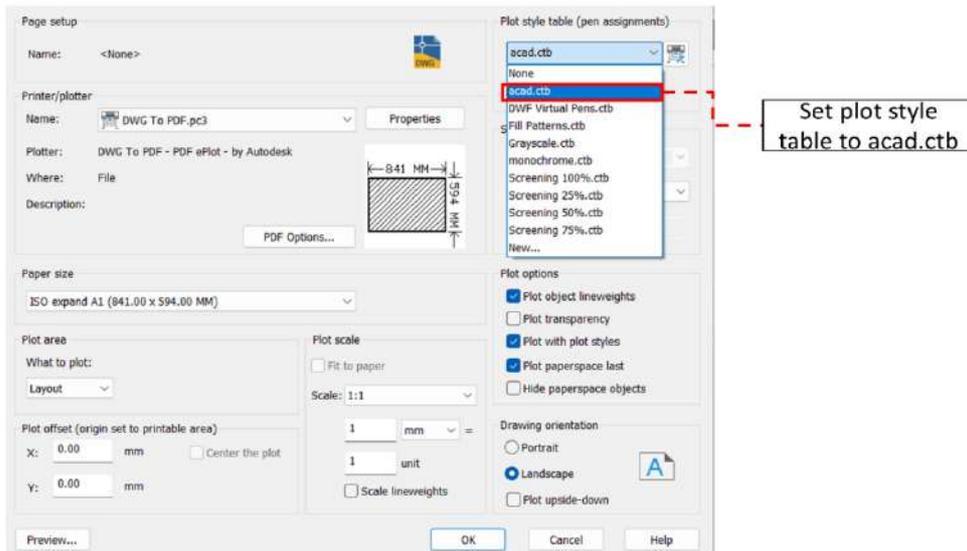

Fig. 5.8: Select plot style table to acad.std
Step 5: Set your Plot Style table to "acad.stb" (refer to Fig. 5.8).